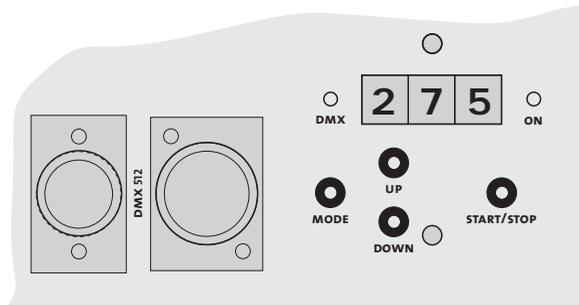

Fig. 3:
- a) Press the Mode button [14] at the control panel until three figures will appear on the LED display [17] (see Fig. 3).